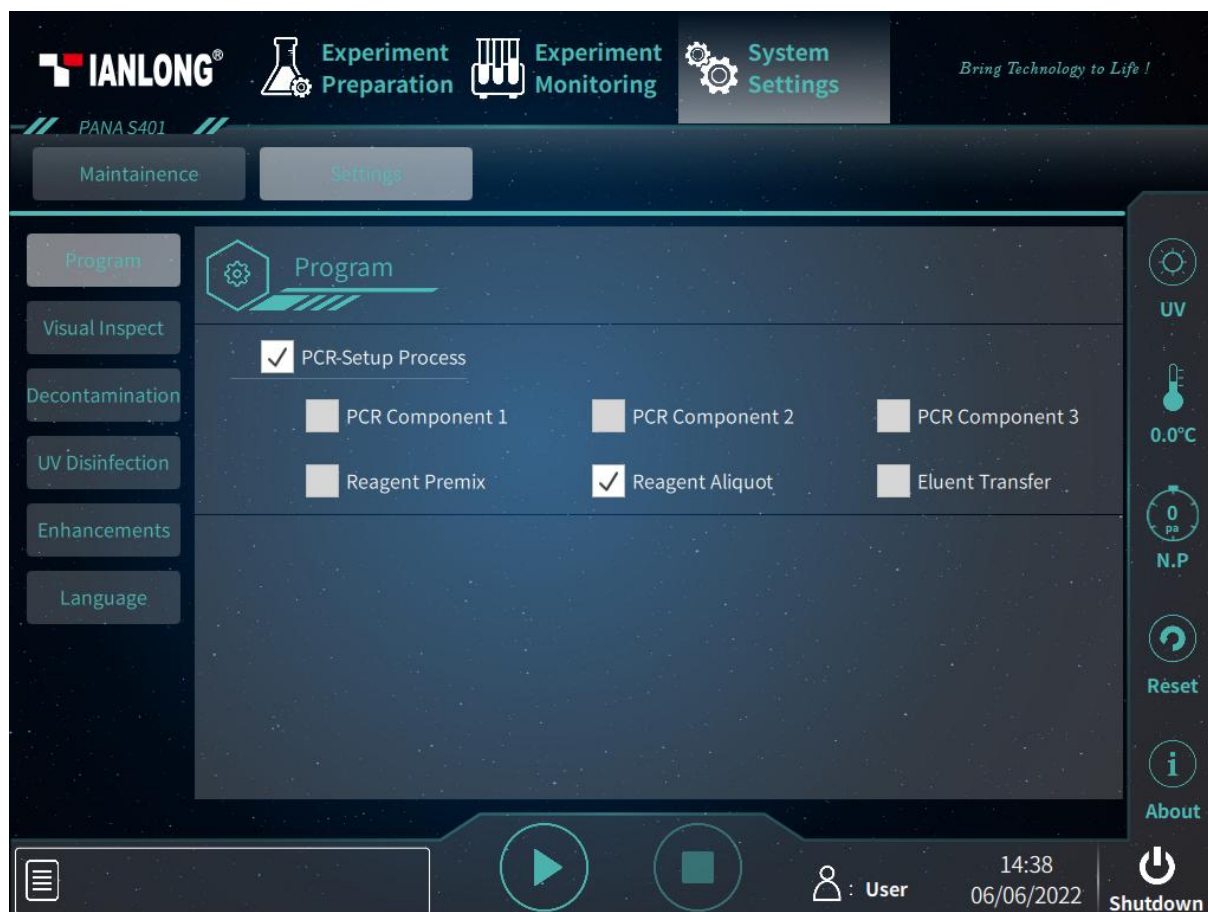

Figure 5-22. System Settings Interface – Settings Tab – Program
The **Settings** tab consists of < *Program* >, < *Visual Inspect* >, < *Decontamination* >, < *UV Disinfection* >, < *Enhancements* > and < *Language* > six function keys, as shown in figure 5-22.
- ▶ **< Program >**: User could click this function key to set the experiment program steps. User could check the corresponding check box to select the step(s) included in the experiment program, as shown in figure 5-22.